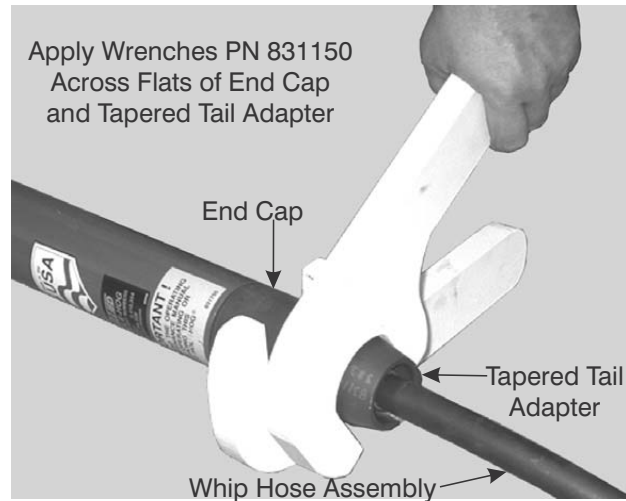

Figure 11-21. Secure Tail Adapter to End Cap.
5. With the End Cap secured as described in step 1 above, fit one of the End Cap Wrenches (831150) across the flats of the Tapered Tail Adapter (12) as shown in Figure 11-21.